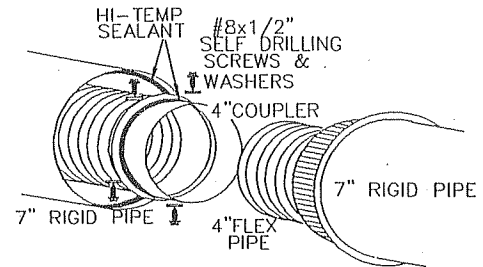

FIGURE 13
6. If more than one length of liner needs to be used to reach the stove, couple them together as illustrated in **Figure 13**. Seal the joints using the same procedure as described in Item 3.